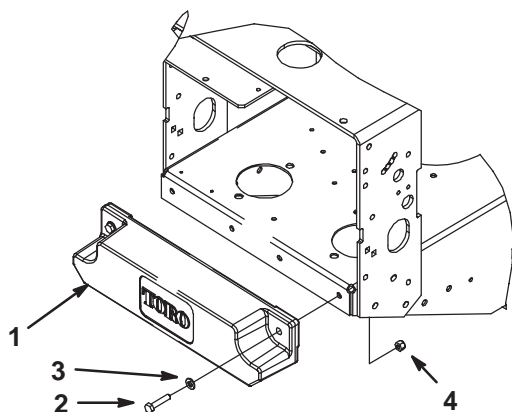

Figure 24
- The weight kit mounted in the **back** position is **optional** when a Tru-Trak[®] Sulky is not installed (Fig. 24).